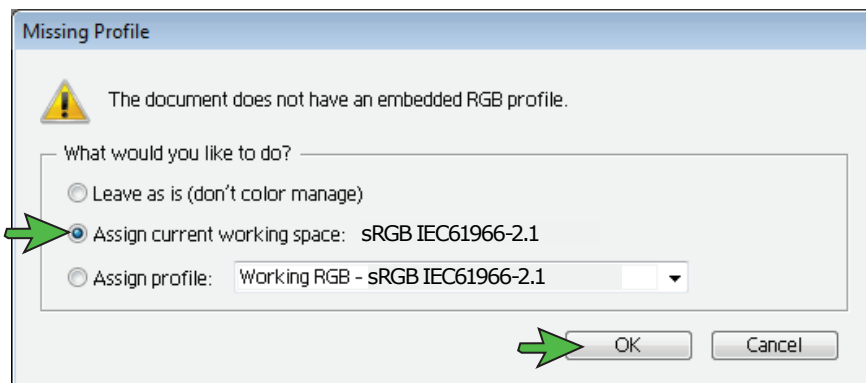

FIGURE 4
- When opening or importing images in Illustrator, you may encounter a **Missing Profile** warning. In this instance, select the radio button for **Assign current working space: sRGB IEC61966-2.1**. Click **OK** to continue (see *FIGURE 4*).